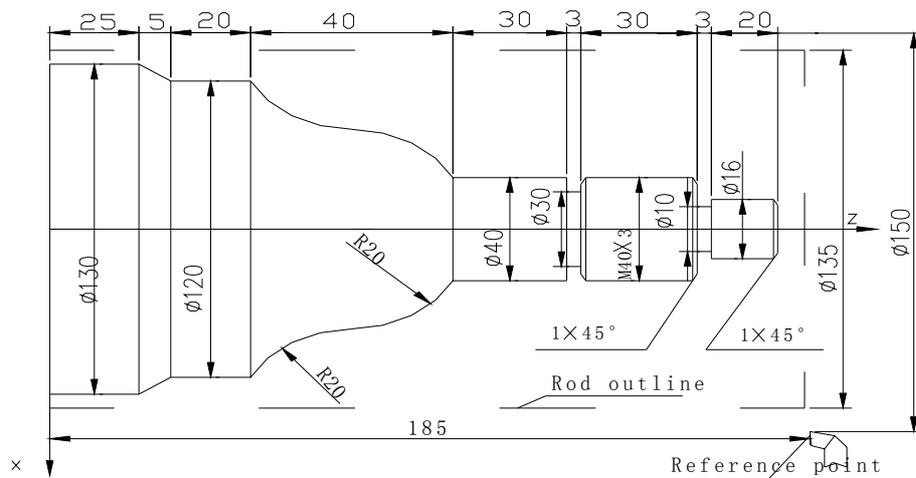

Fig. 36 Machining example
**Example 4** : Compound machining as Fig. 36(G71, G92). Rod  $\Phi 135 \times 178$  mm .4 tools: